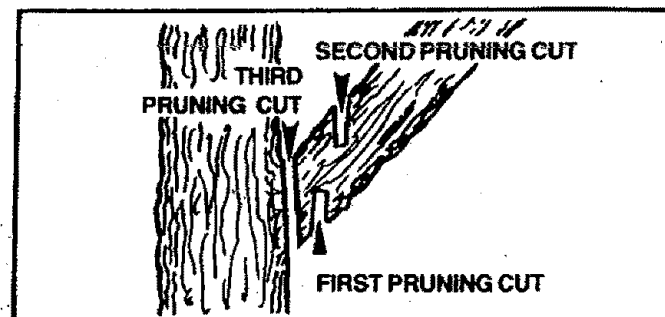

Figure 28
- b. Refer to Figure 28 for pruning technique.